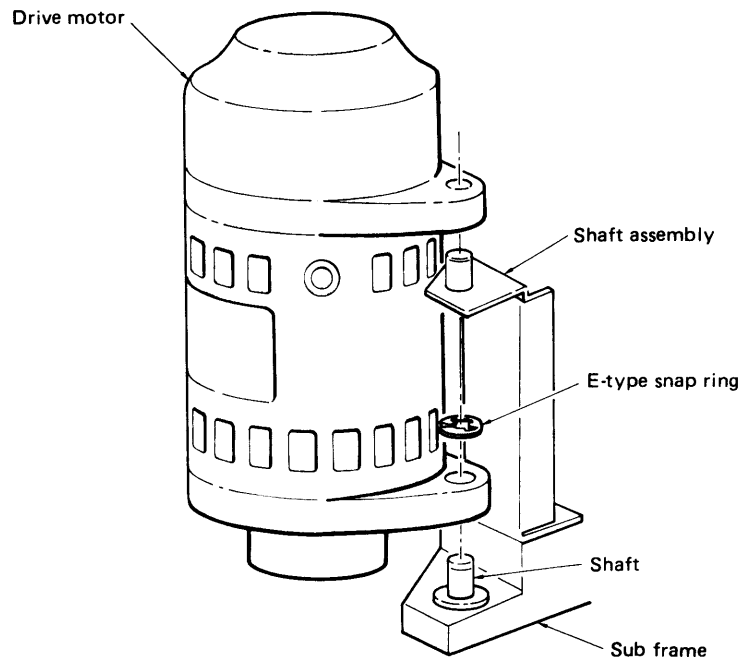

Figure 6-5-3 Disk Drive Motor Replacement
- (1) Disconnect motor cable from TRM2.
- (2) Remove belt in accordance with para. 6.5.4.
- (3) Remove E-type snap ring shown in Fig. 6-5-3, and pull out the motor from shaft.
- (1) Install motor, and fasten it to shaft with E-type snap ring shown in Fig. 6-5-3.
- (2) Install belt in accordance with para. 6.5.4.
- (3) Connect motor cable by terminal numbers of TRM2.